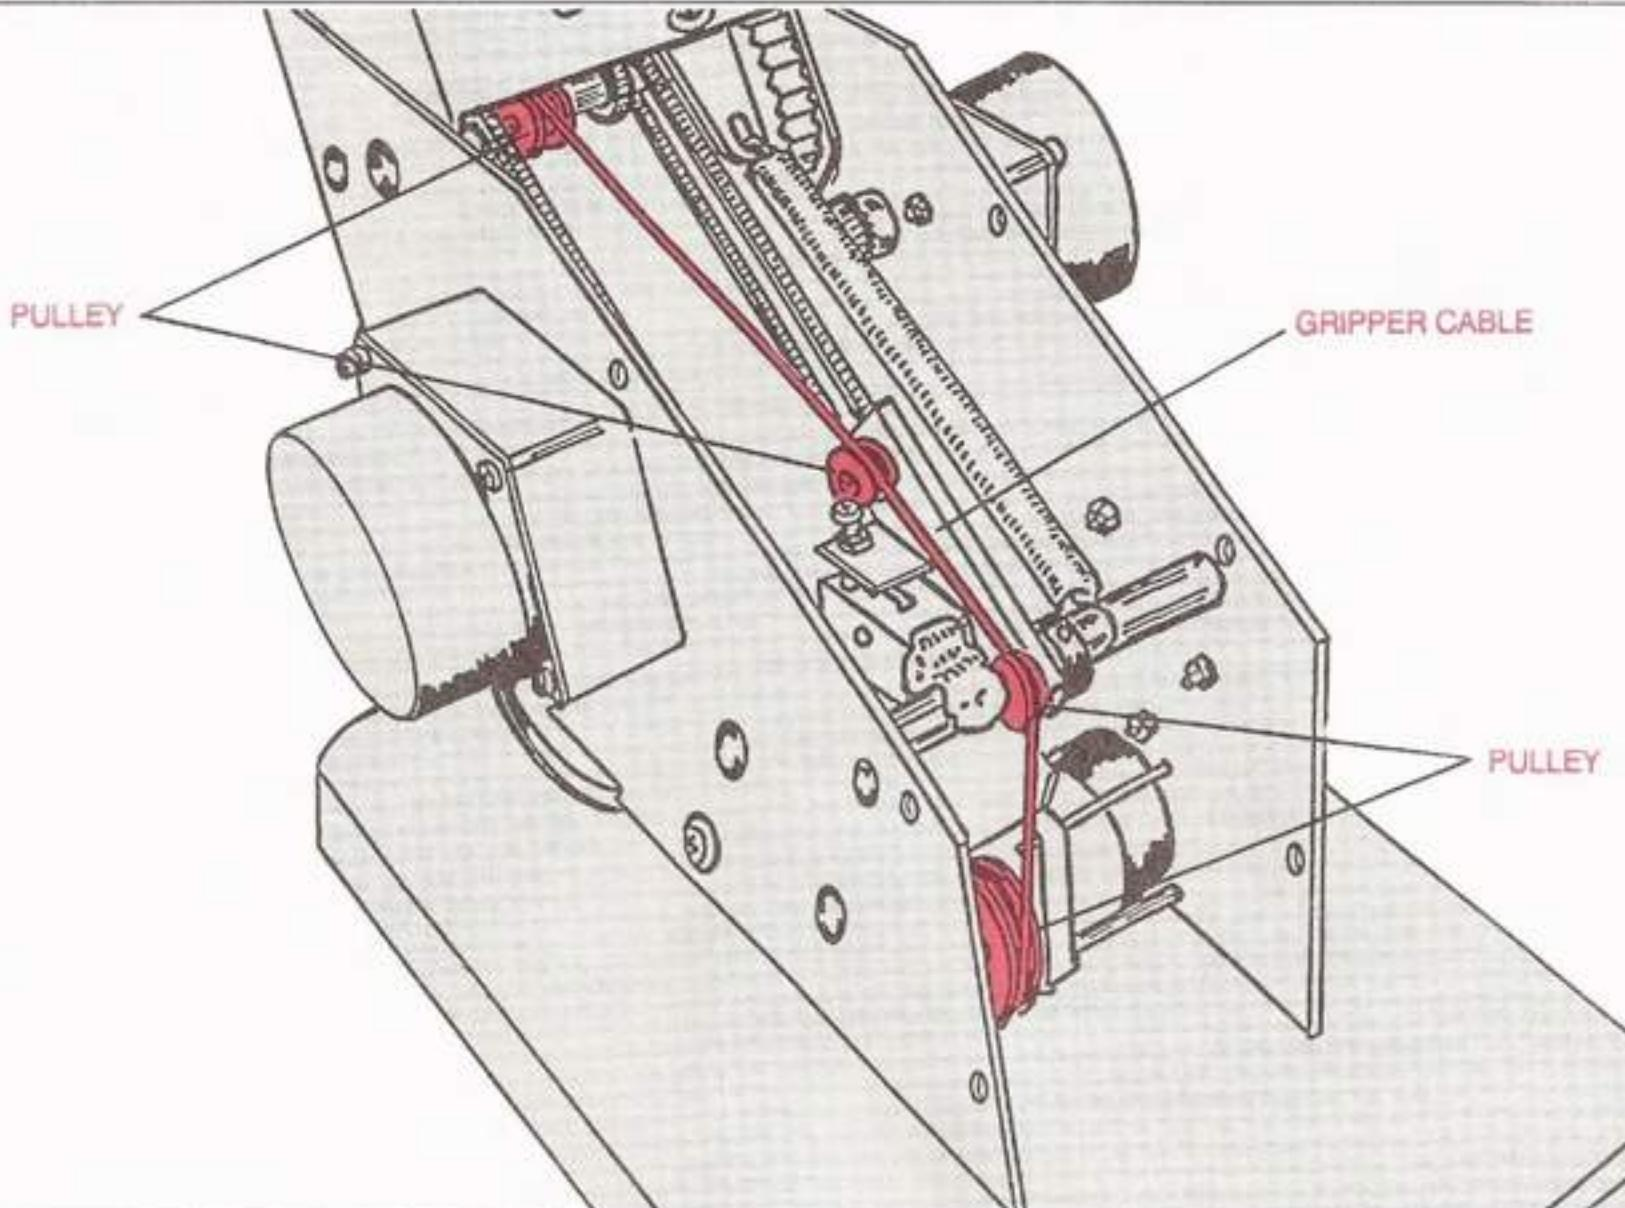

Fig. 96: The Gripper Cable and Pulley Arrangement
- c. Observe the gripper cable and pulley arrangement, and the gripper limit switch, as shown in Fig. 96. Check to see if the cable is binding between the flywheel and the gripper motor M6, or if it has slipped off any of its pulleys.